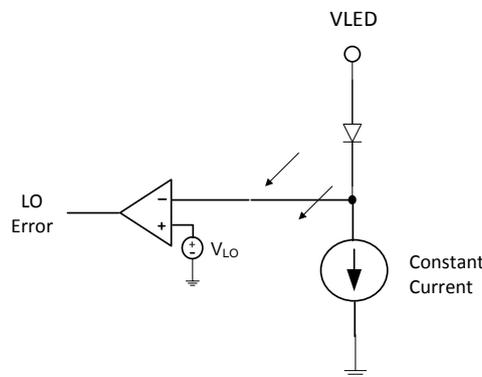

Figure 6. LED Open Circuit Detection Circuit
The DD313-4 can detect LED open circuit (LO) by comparing with open circuit threshold when  $I_{OUT}$  is on. LO will result in ALARAM signal pulled low. Figure 6 illustrates LO detection circuit. The table below shows a truth table for LO.